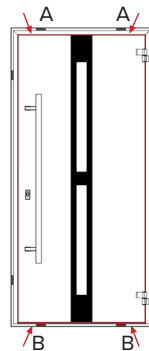

Figure 16.
3.12. Align the locking part of the frame along the contact. Check the uniformity of the clearance between the top of the leaf and the top profile of the frame (A). In case of an uneven clearance, adjust it by placing wooden linings under the threshold of the frame from the side of the smaller clearance (B) (figure 16).